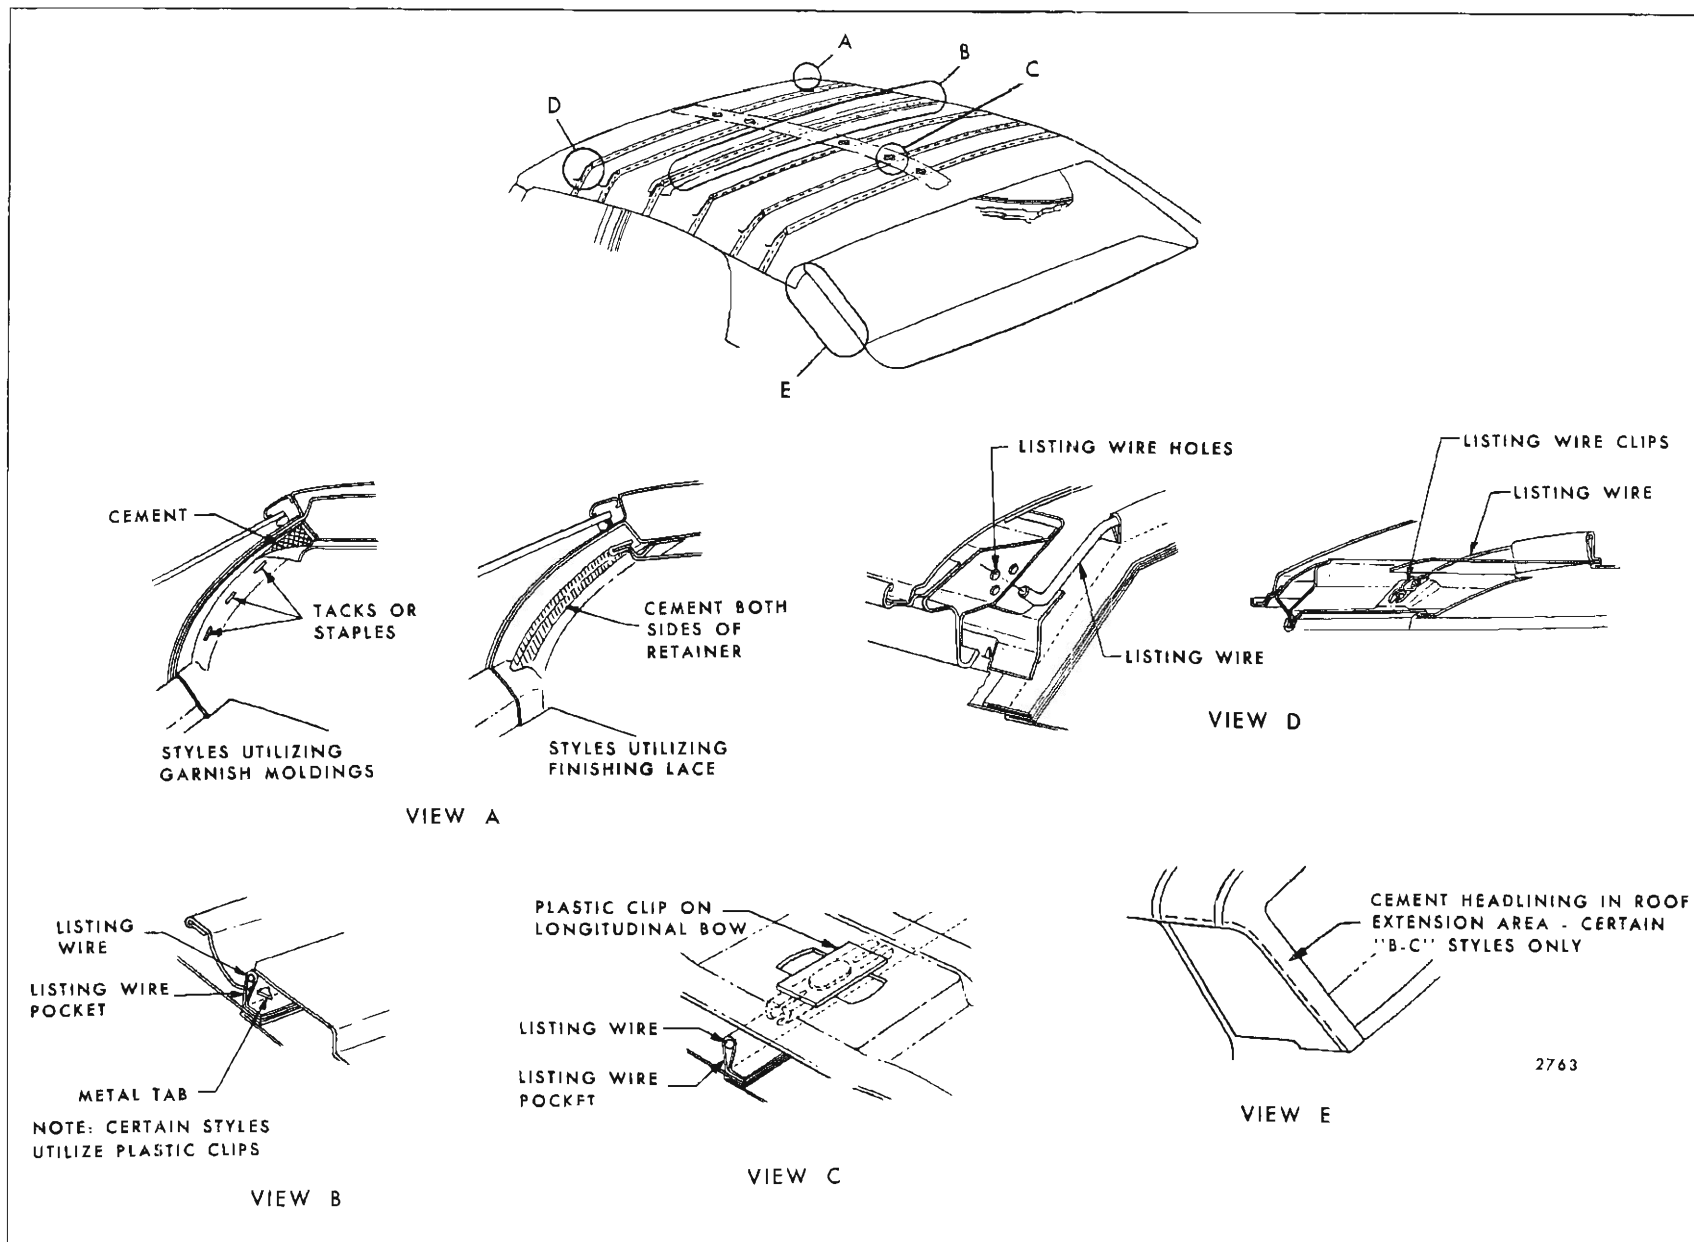

Fig. 11-1—Typical Cloth and Vinyl Headlining Installations
On certain styles, the listing wires are further attached to the roof panel by snap-in type clips on the front to rear longitudinal roof bow (Fig. 11-1, View "C").
Where garnish moldings are utilized the headlining is tacked or stapled in addition to being cemented at the windshield and back window or back body opening (See Fig. 11-1, View "A").
6. Starting at front of body, carefully disengage No. 1 and No. 2 listing wires from side roof inner rails and supporting clips on longitudinal (front to rear) bow on styles so equipped (See Fig. 11-1, View "C"). In like manner, working from rear of body, disengage listing wires from side roof rails and supporting clips on longitudinal bow. Exercise care to keep headlining material clean by gathering or folding headlining with listing wires on outside.
2. Apply an approved non-staining trim cement to headlining attaching surface at windshield, side roof rail and back window or back body opening. On styles that utilize finishing lace be certain cement is applied to both sides of retainers (See Fig. 11-1, View "A").
3. Lift headlining assembly into body and install No. 3 listing wire and listing wire pocket over metal tabs at roof bow and bend up tabs to secure wire to bow. On styles that incorporate plastic clips in place of metal tab, snap No. 3 listing wire into clips (See Fig. 11-1, View "B" and "C").
4. Working rearward from No. 3 listing wire, install listing wires in side roof rails and snap listing wires into plastic clips on longitudinal bow (on styles equipped with longitudinal bow). In like manner, working forward, install remaining listing wires (See Fig. 11-1, View "C").
**NOTE:** Listing wires may be adjusted up or down by utilizing appropriate holes in side roof rails. Listing wires should rest tight against roof panel after installation (See Fig. 11-1, view "D").